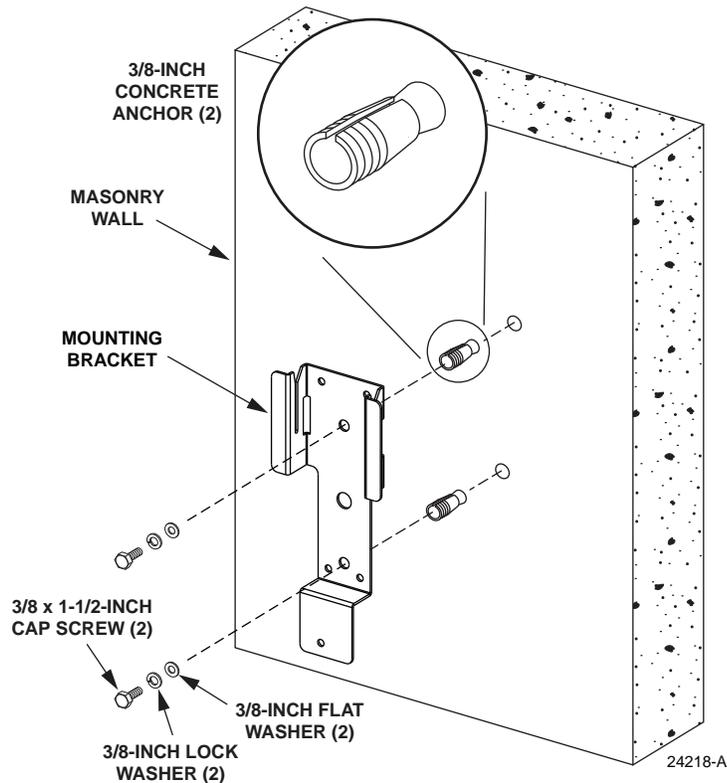

Figure 9. Installing Mounting Bracket on a Masonry Wall
- 3/8-inch concrete anchor (2)
- 3/8-inch x 1-1/2 inch hex head capscrew (2)
- 3/8-inch flat washer (2)
- 3/8-inch lock washer (2)
2. Using the mounting bracket as a guide, mark the location of the bracket mounting holes on the masonry wall as shown in Figure 9.